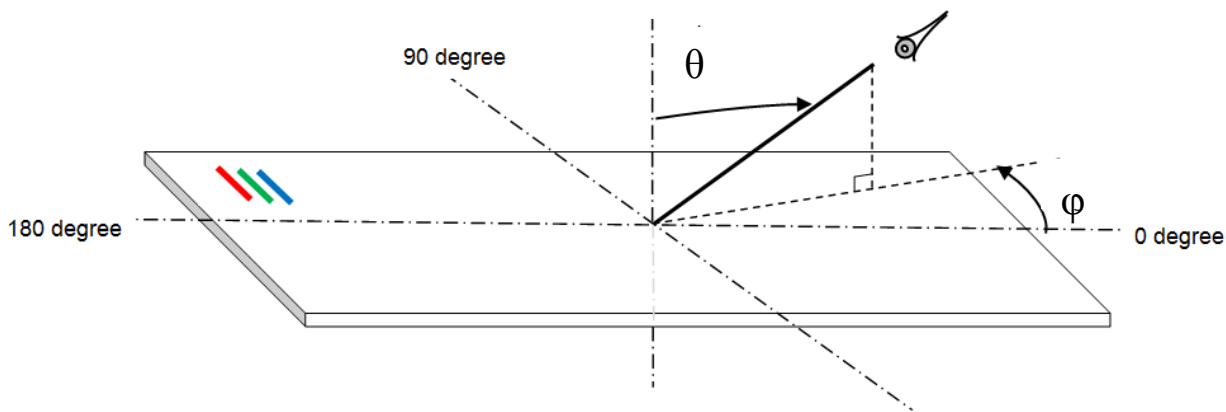

Figure 8. Definition of Axis
1. The White luminance uniformity on LCD surface is then expressed as : $\Delta Y = \text{Minimum Luminance of 13 points} / \text{Maximum Luminance of 13 points.}$ (see Figure 8).
4. Center Luminance of white is defined as luminance values of 5 point average(4,5,7,9,10) across the LCD surface. Luminance shall be measured with all pixels in the view field set first to white. This measurement shall be taken at the locations shown in Figure 8 for a total of the measurements per display.
The White luminance uniformity on LCD surface is then expressed as : $\Delta Y_{13} = \text{Minimum Luminance of 13 points} / \text{Maximum Luminance of 13 points}$ (see Figure 8).